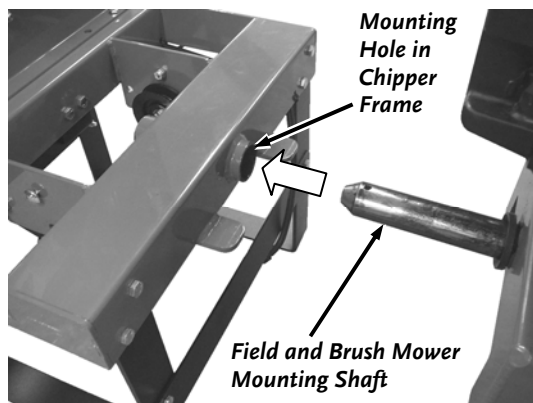

Figure 21
4. With the help of another person to steady the Chipper as you position the Field and Brush Mower; line up the FIELD AND BRUSH MOWER Mounting Pin with the Mounting Hole in the Chipper Frame. Push the Field and Brush Mower until the Pin is all the way into the Mounting Hole (Figure 21).